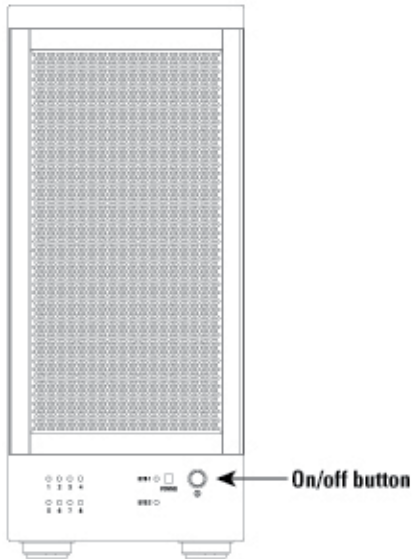

Fig. 8
1. Switch off the device (fig. 8).